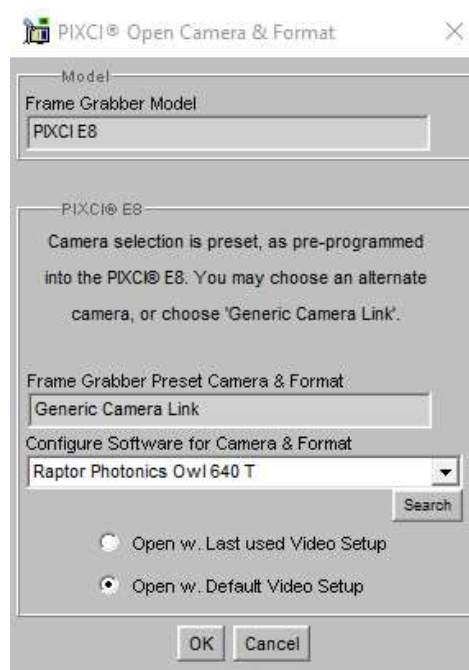

Figure 2: Camera Selection
4. Using the dropdown menu scroll down and select Raptor Photonics OWL 640T from the list (Figure 2). Selecting OK when done.